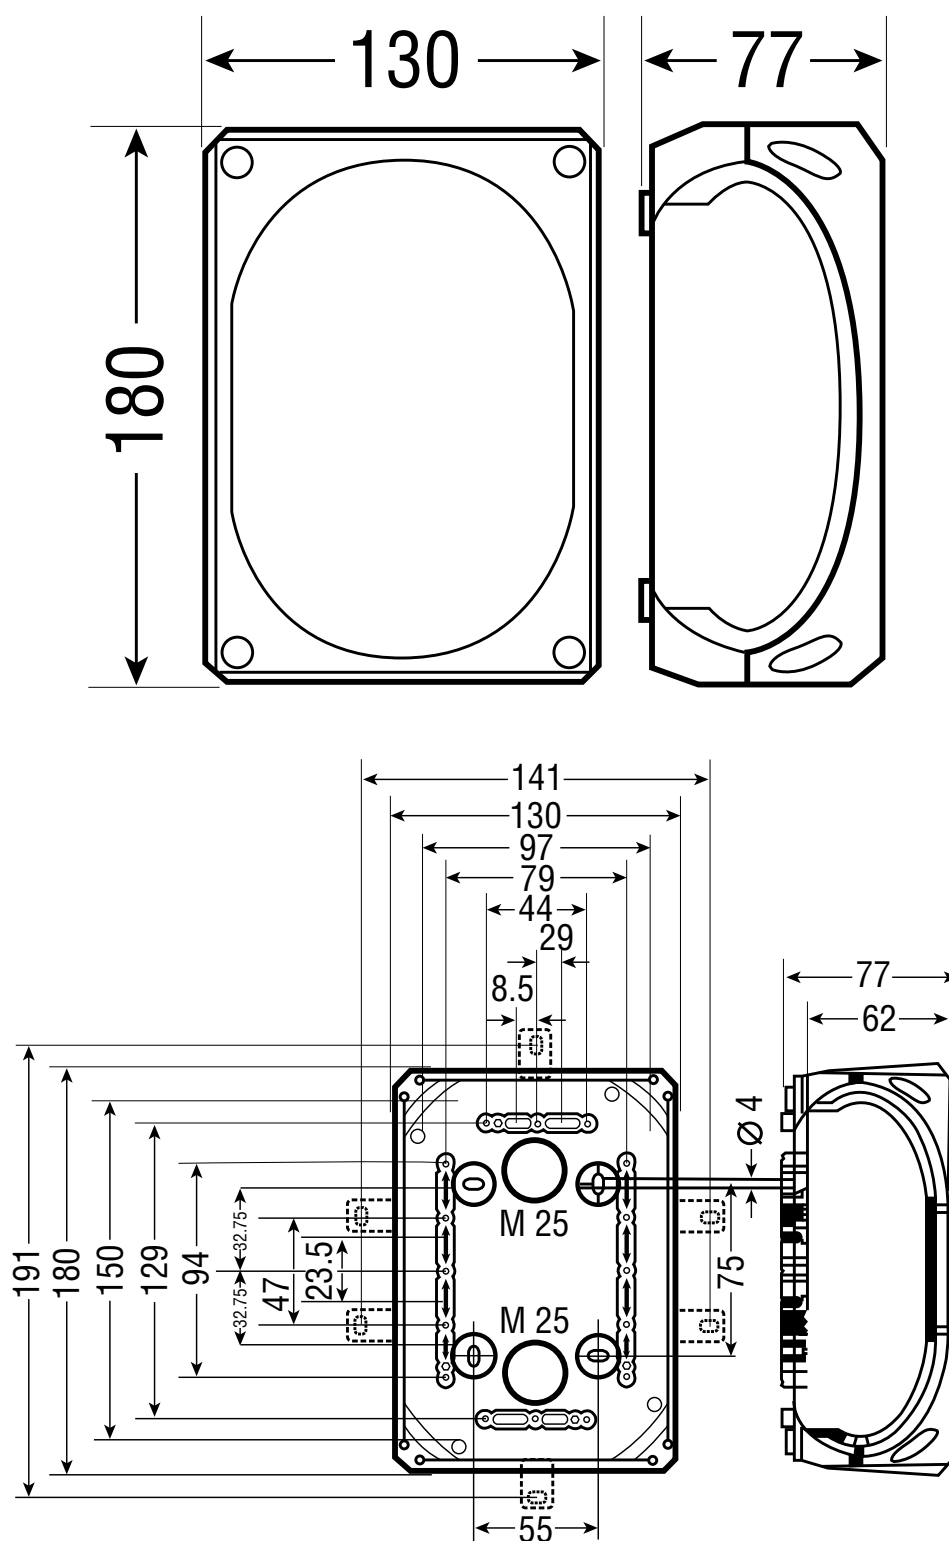

Figure 8.0 VIA Dimensions – mm
Prior to mounting, select one of the 10 knockout locations for wiring. (Refer to Figure 8.0 for dimensions and knockout locations) Gently tap with a hammer to snap out the plastic. A cable grommet (25 mm or 32 mm) can be used to seal the knockout and provide entry for the cables.
Dimensions: 6.57" (L) x 4.92" (W) x 3.22" (H) (See Fig. 8.0)